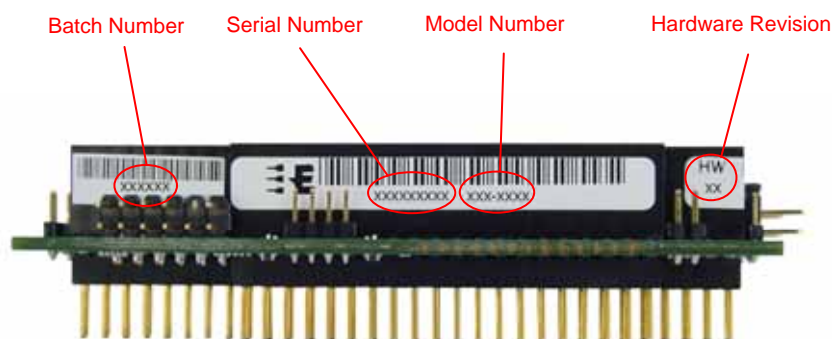

Figure 1. Board label locations
- Model number (see Figure 1)
- Serial number (see Figure 1)